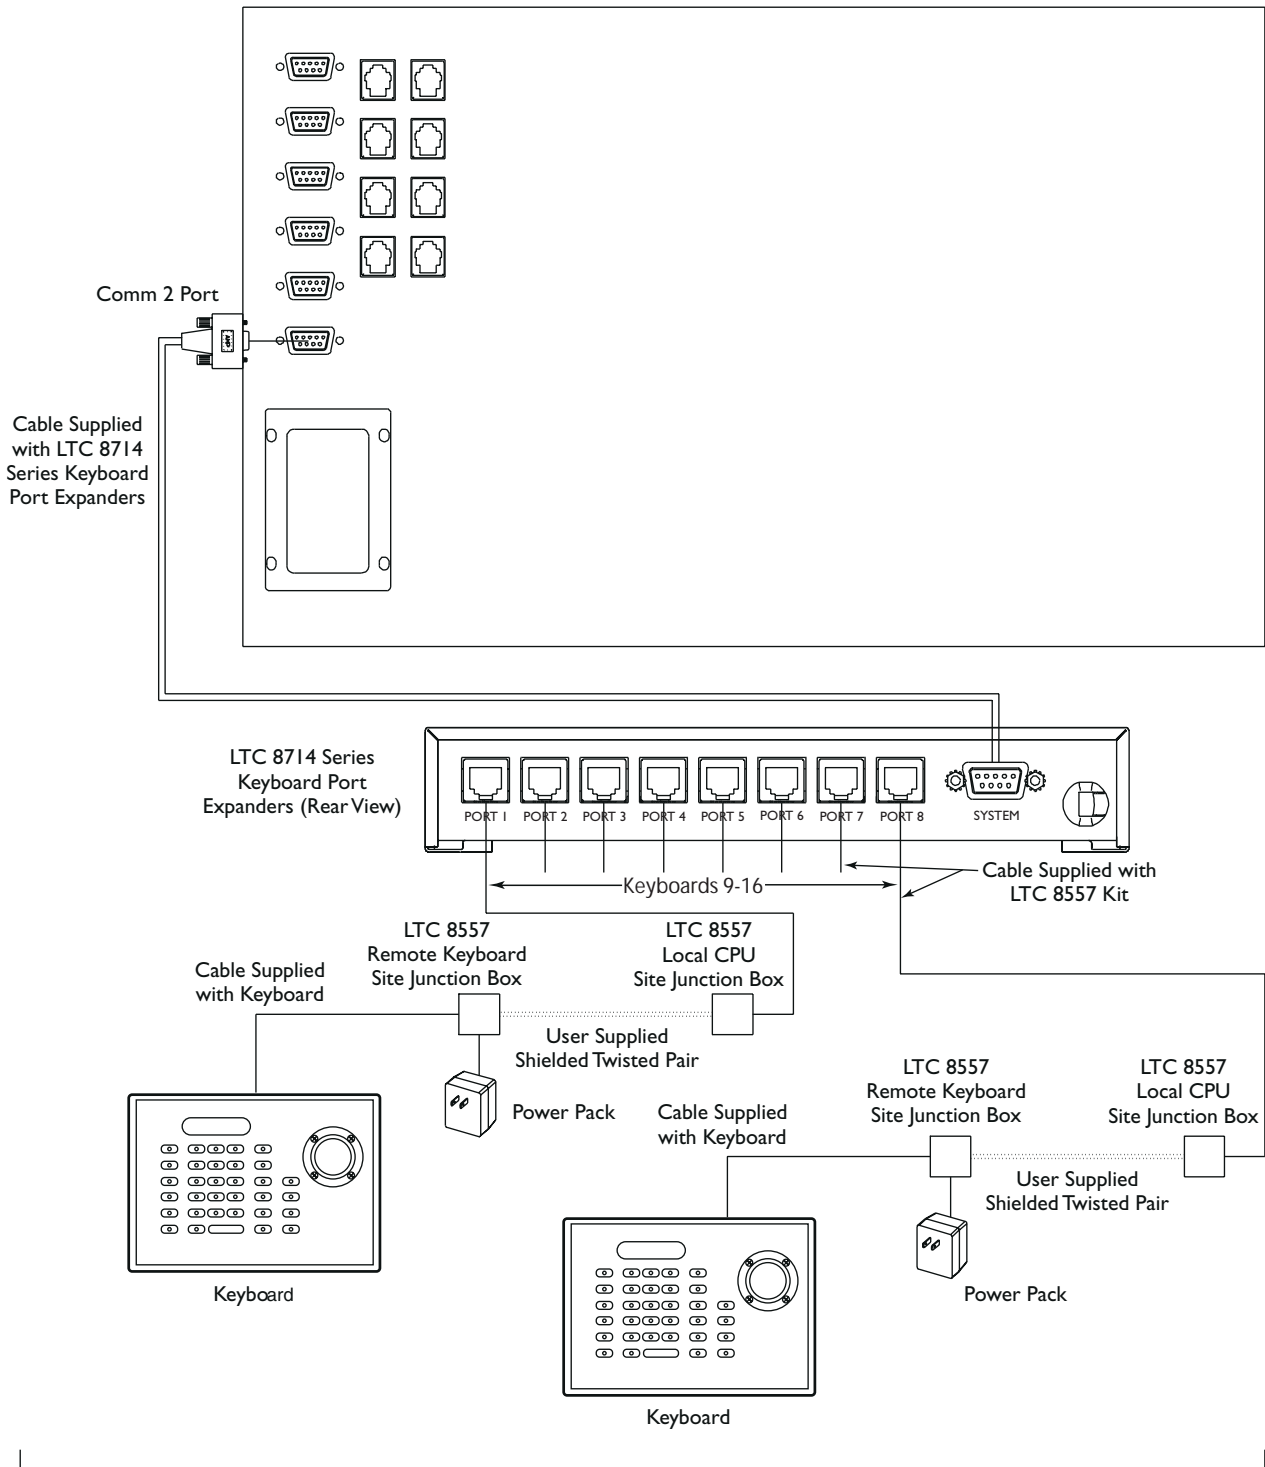

Figure 9 Typical LTC 8714 Series Keyboard Port Expander Application
7. Using the cable supplied with the LTC 8714 Series Keyboard Port Expander, connect one end of the cable to the connector marked SYSTEM on the LTC 8714 Series unit. Connect the other end of the cable to the connector marked COMM2 on the Allegiant Series system (see FIGURE 9).